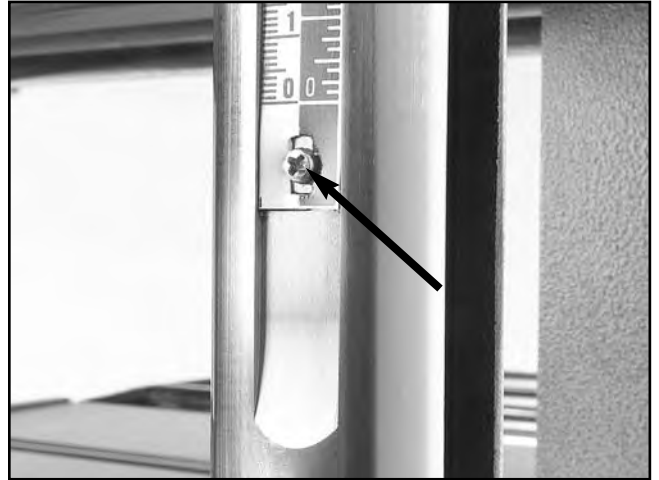

Figure 30. Screw for column adjustment.
4. Measure the board again and compare your results with the scale. If there is a discrepancy, loosen the scale adjustment screw and correct the position. See **Figure 30**.